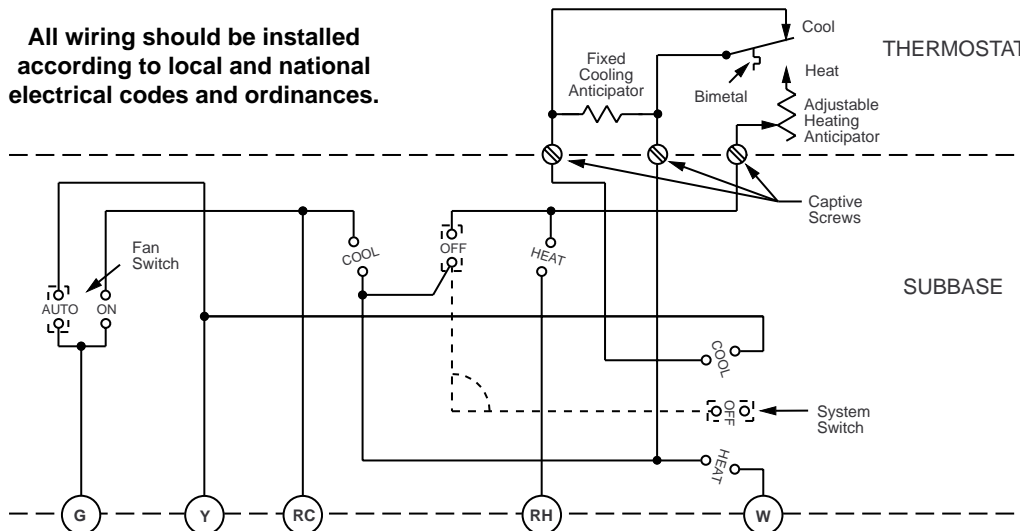

Figure 3. Thermostat /subbase diagram
1. Pull wires through opening near centre of subbase and connect wires beneath terminal screws (see figs. 3 to 8).